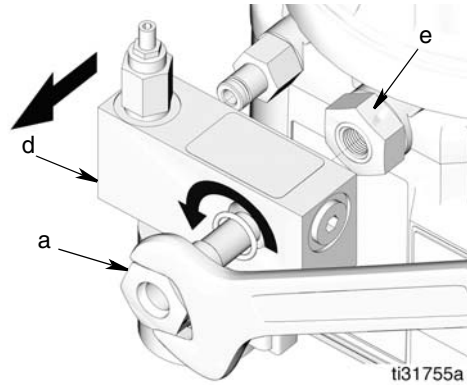

FIG. 3
5. Use a wrench to loosen banjo bolt (a) and remove vent valve (d) from pump element (e) (FIG. 3).